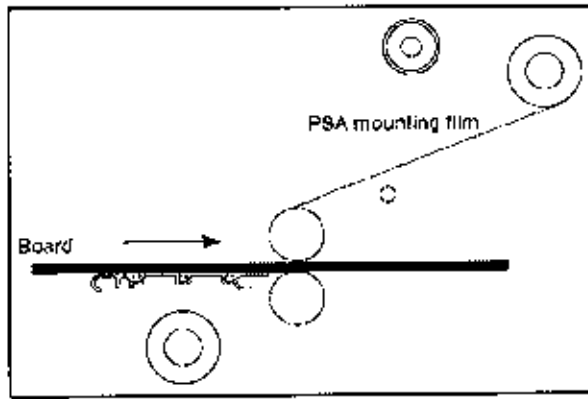

Fig. 6-19. Laminator Ready for Pre-treating Boards
1. Load the laminator as shown in Fig 6-19.